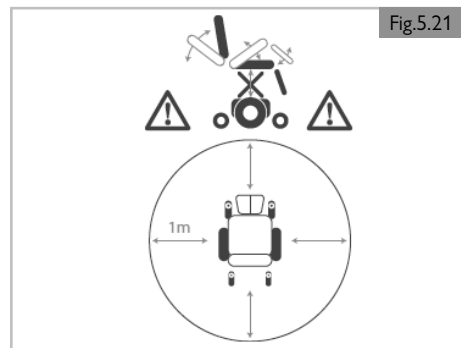

Fig.5.21
2. Always ensure that the leg rests or footplates do not come into contact with the casters before driving the wheelchair. (Fig. 5.21)